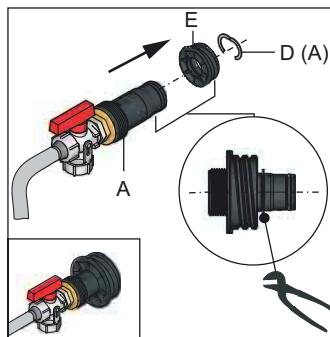

Fig. 6-3 Complete KFE filling connection
- Insert the **KFE filling connection** into the threaded piece (fig. 6-3, item E) and secure it using a clamping piece (fig. 6-3, item D).